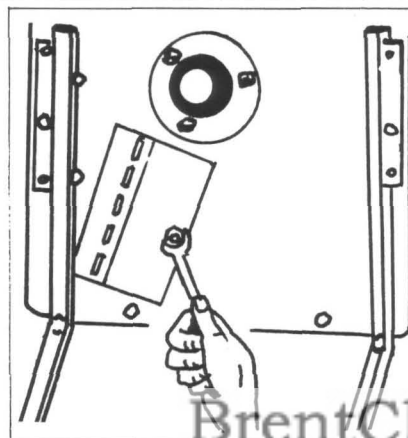

Fig. 4
- A. Remove whiz nut from knife access door as shown in Figure 4